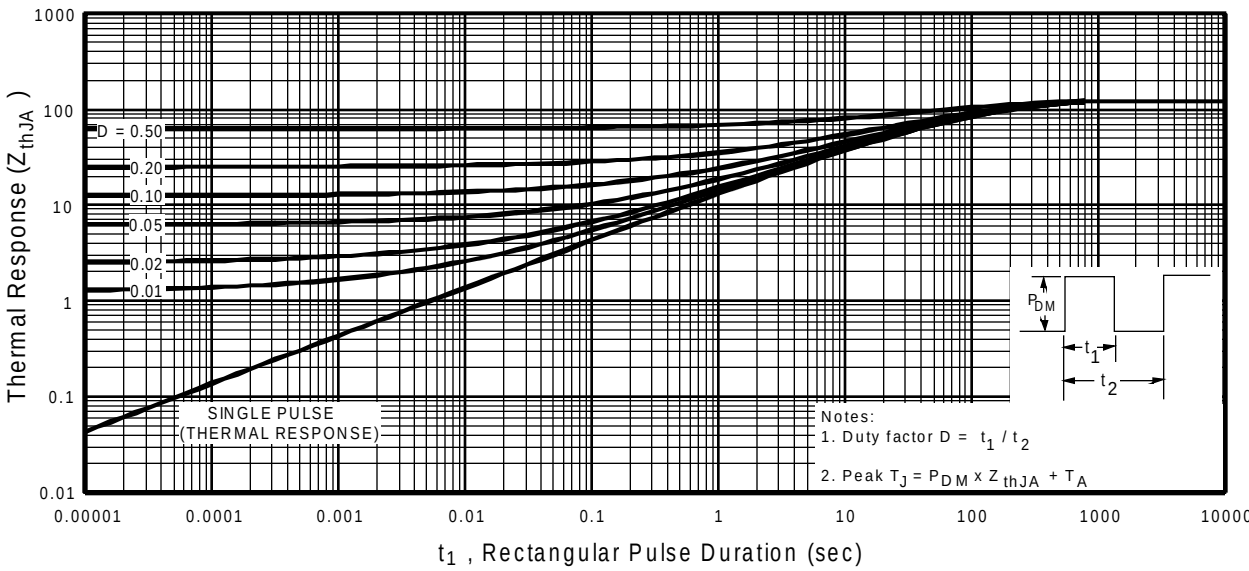

Fig 11. Maximum Effective Transient Thermal Impedance, Junction-to-Ambient
- ① Repetitive rating; pulse width limited by max. junction temperature. (See fig. 11)
- ② Starting $T_J = 25^\circ\text{C}$, $L = 25mH$